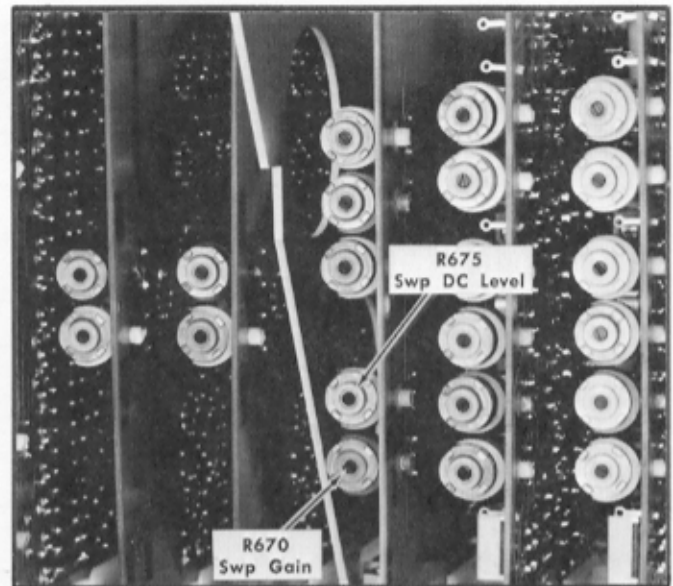

Fig. 7-10. Location of Sweep Gain and Sweep DC Level adjustments on the Buffer circuit card. (Models 1-3).
- i. ADJUST—R675 (gray), SWP DC LEVEL adjustment for a voltmeter reading of 0.000 volt (Fig. 7-10).
- i. ADJUST—R670 (violet), SWP GAIN adjustment for one-tenth the voltage recorded in part e (Fig. 7-10).